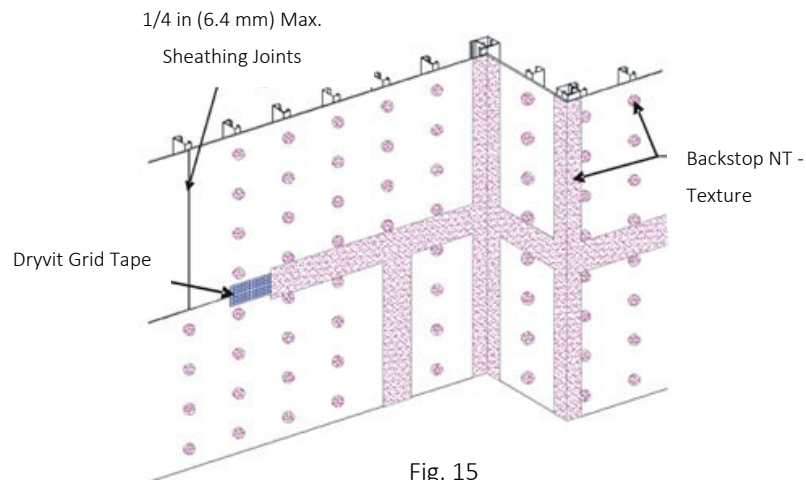

Fig. 15
- 1) Apply Dryvit Grid Tape as described in Section VI.E.1 above. Mix the Backstop NT - Texture material as described in Section III.B.2. Using a stainless steel trowel or spatula, apply a layer of Backstop NT - Texture over the Dryvit Grid Tape and spot all fastener heads – Figure 15.